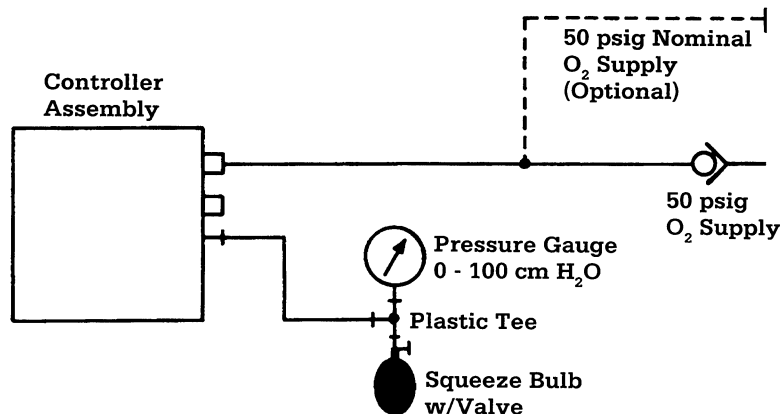

Figure 3-10
1. Connect the test equipment to the controller assembly as shown in Figure 3-10.